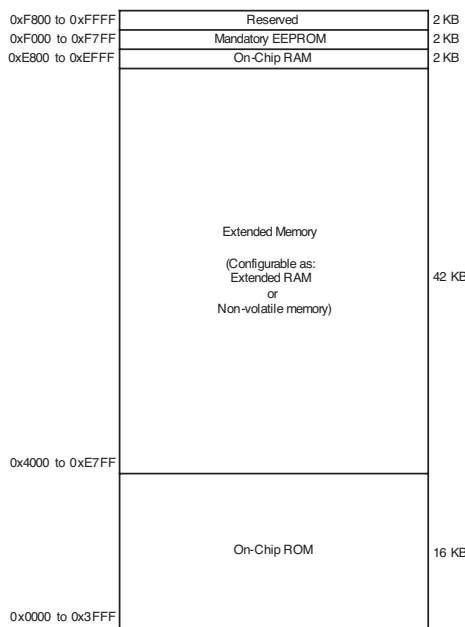

Figure 5: FT 5000 Smart Transceiver Memory Map
**Memory map.** A Neuron 5000 Processor has a memory map of 64KB. A Neuron C application program uses this memory map to organize its memory and data access. The memory map is a logical view of device memory, rather than a physical view, because the chip's processors only directly access RAM. The memory map divides the Neuron 5000 Processor's physical 64KB RAM into the following types of logical memory, as shown in Figure 5: